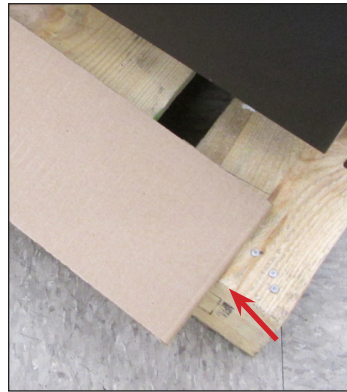

Fig. 3a. Use cardboard to keep the pallet from scratching the unit.
3. Place some cardboard on the pallet's edge with the handle, and then place cardboard on the floor to cushion the unit's top. See 4b. See figs. 3a and 3b.